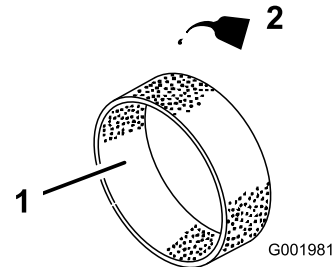

Figure 48
4. Put one or two ounces of oil on the element (Figure 48).